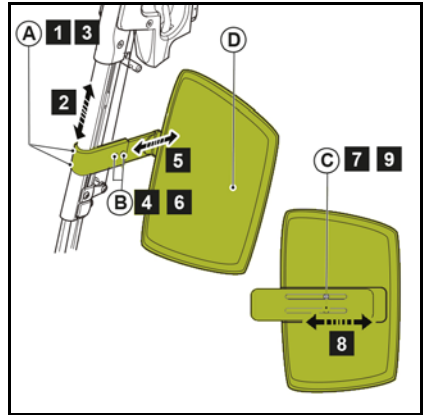

Figure 4.9
**Calplate height, width and depth setting (fig 4.9).**